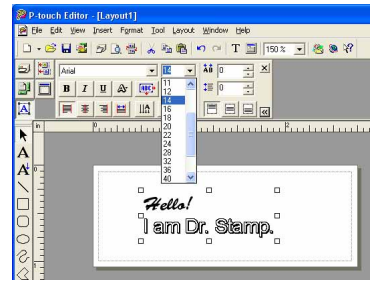

figure 8
- 3 From the “Size” drop-down list, select the desired character size (see figure 8).